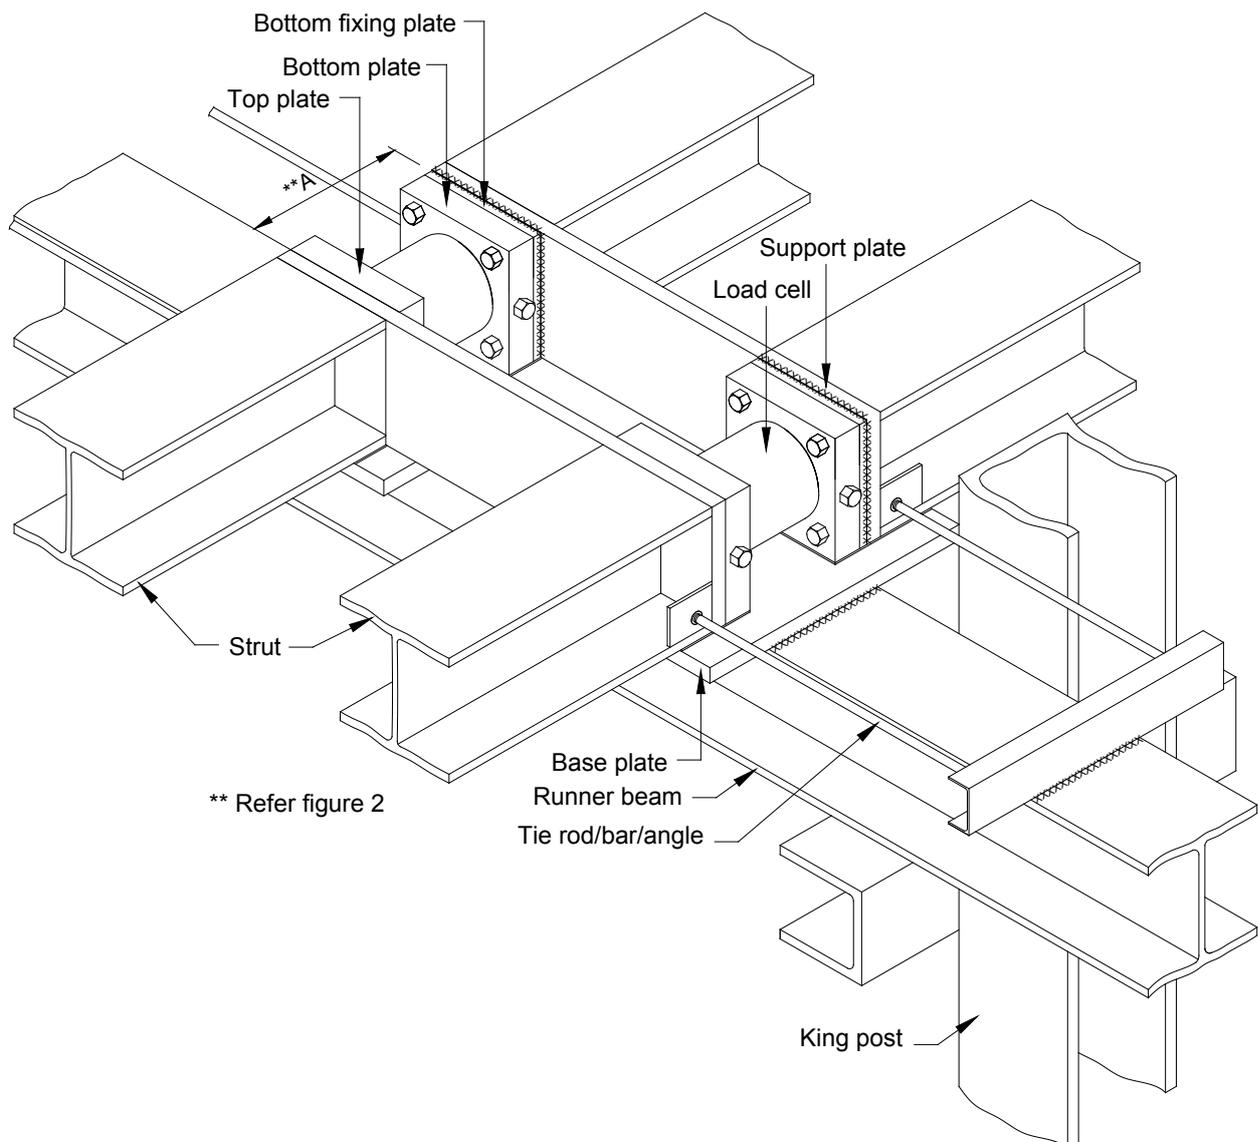
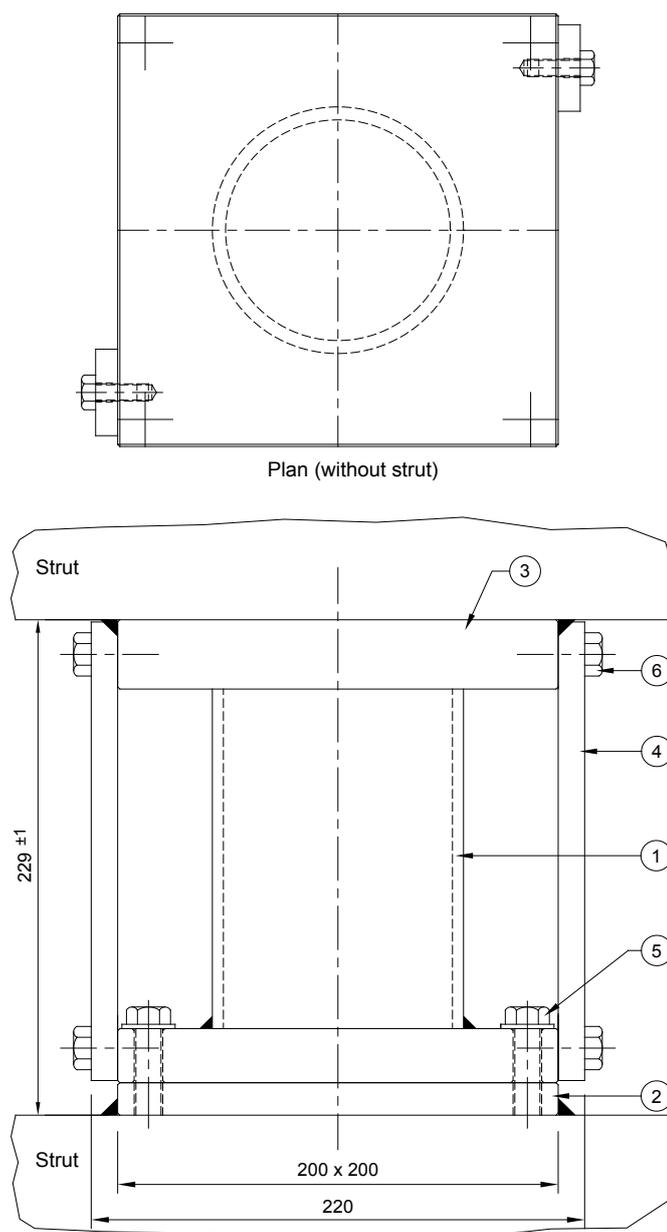
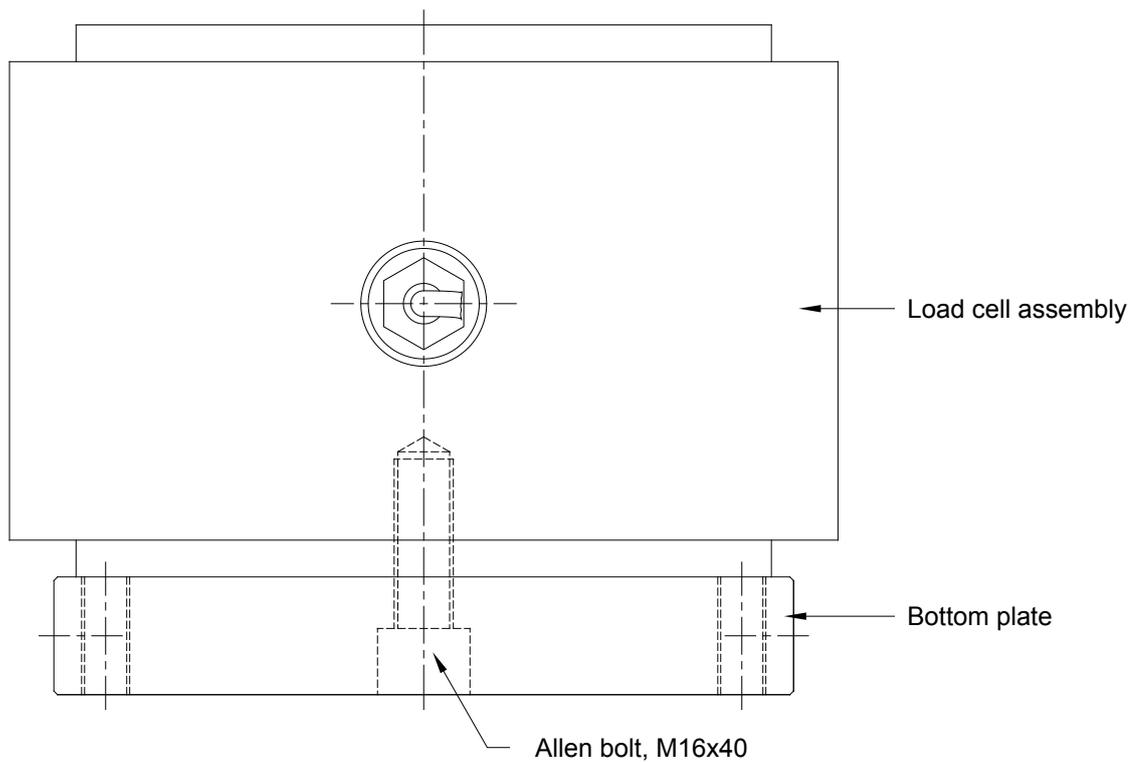

Figure 1
Figure 2
Figure 3
The Encardio-rite model ELC-150S-H series load cell is a heavy duty, high capacity, precision load cell and is ideally suited for measurement of load in struts. Because of no moving parts and mechanical linkages the load measurement system using the load cell is stable. The load cells are temperature compensated reducing the effect of temperature variation. Besides load cell, the measurement system includes stay rods, top and bottom mounting plates, junction box, cable, switch box and a readout unit. A typical mounting scheme for struts is shown in figure 1. Dimensional details of the load cell assembly are provided in figure 2. For wiring details, refer to figure 3.
4.2.1 Struts contractor to prepare struts for mounting the load cells. Weld two base plates around 500 mm x 300 mm x 25 mm on runner beam as shown in figure 1. These will support the struts over the runner beam at the location where the load cells have to be mounted. The faces of the struts have to be provided with support plates for mounting of load cells.
4.2.2 Mount the dummy load cell (1) on bottom fixing plate (2) by hex bolts M10X45 (5). Place top plate (3) on the dummy load cell and fix the retaining plates (4) by hex bolts M8X25 (6) as shown in the figure. With struts in position, lift the dummy load cell assembly by suitable means and position it between flanges at specified location and position it at the centre of the strut to minimize the effect of eccentric loading. Weld the top plate and bottom fixing plate to the strut flanges as shown in figure 2. Repeat procedure for other locations also.
Remove the retaining plates (4) by unscrewing the bolts M8X25 (6). Remove the dummy load cell from bottom fixing plate by unscrewing the bolts M10X45 (5). Place the load cell ELC-150 S-H 5000 kN with bottom plate (refer figure 3) on the bottom fixing plate (pre-welded with the strut) and fix the whole assembly by the hex bolts M10X45 to the bottom fixing plate. Mount the retaining plates on top plate (pre-welded with the strut) and bottom fixing plate to align the whole assembly if required.
CAUTION: Take care that heating during welding to the support plates does not damage load cells. Rags soaked in water must be wrapped around the load cells to avoid unnecessary increase in temperature during welding. Use a dummy load cell assembly as shown in figure: 2 to avoid such type of damages.